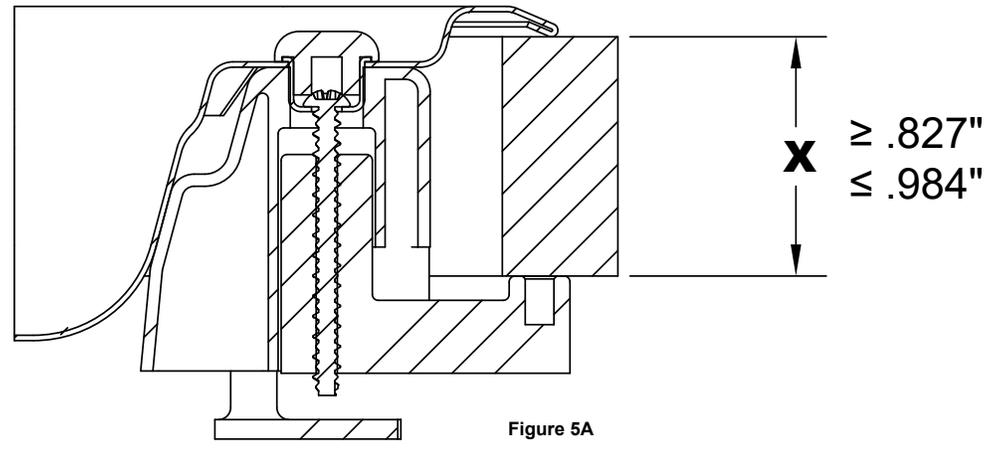

Figure 5A
- If the countertop thickness range is between 0.827" - 0.984", the plastic spacer piece provided should NOT be used in conjunction with the clamping mechanism (Refer to Figure 5A).